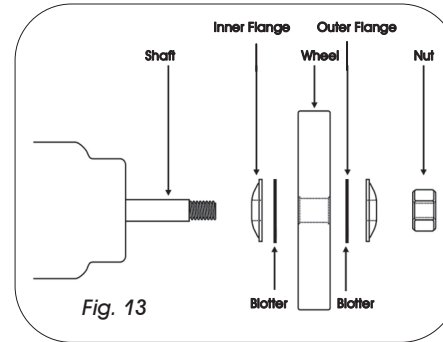

Fig. 13
- Refit the flanges and wheel etc. as shown on page 19, Fig. 13.